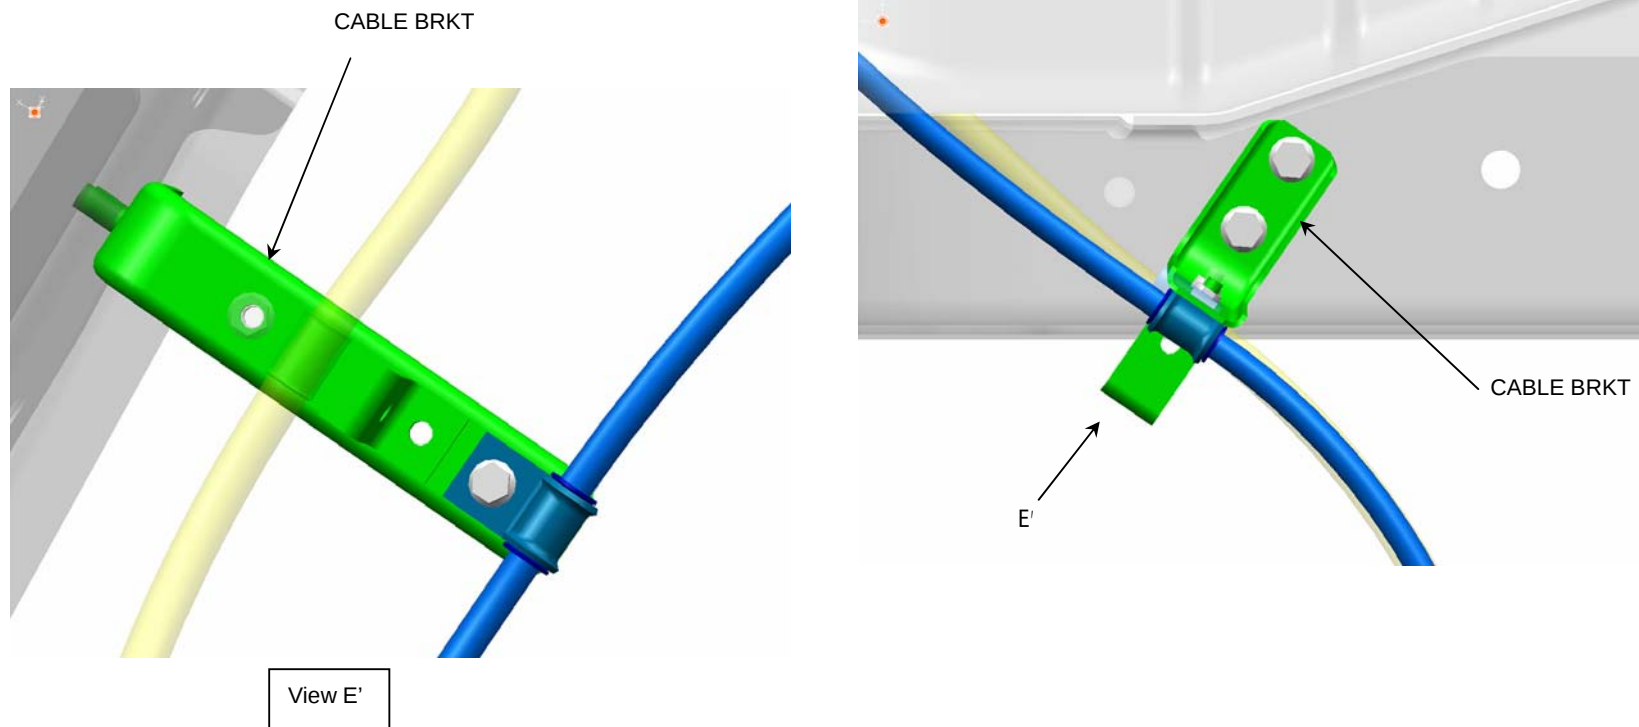

Fig 9. Installation of Cable under the Cab
3. Affix the Cable to the Bracket under Cab Floor as shown in Figure 9.